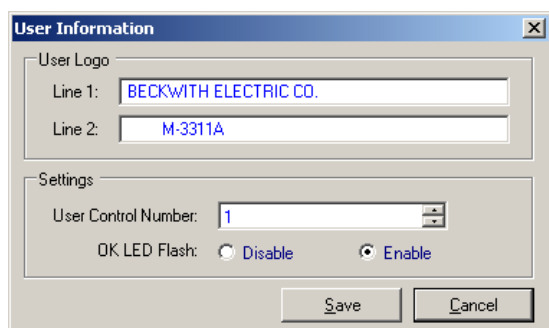

Figure 4-5 User Information Dialog Screen
1. From the IPScom Main Screen menu select **Tools/User Information**. IPScom will display the User Information dialog screen (Figure 4-5).